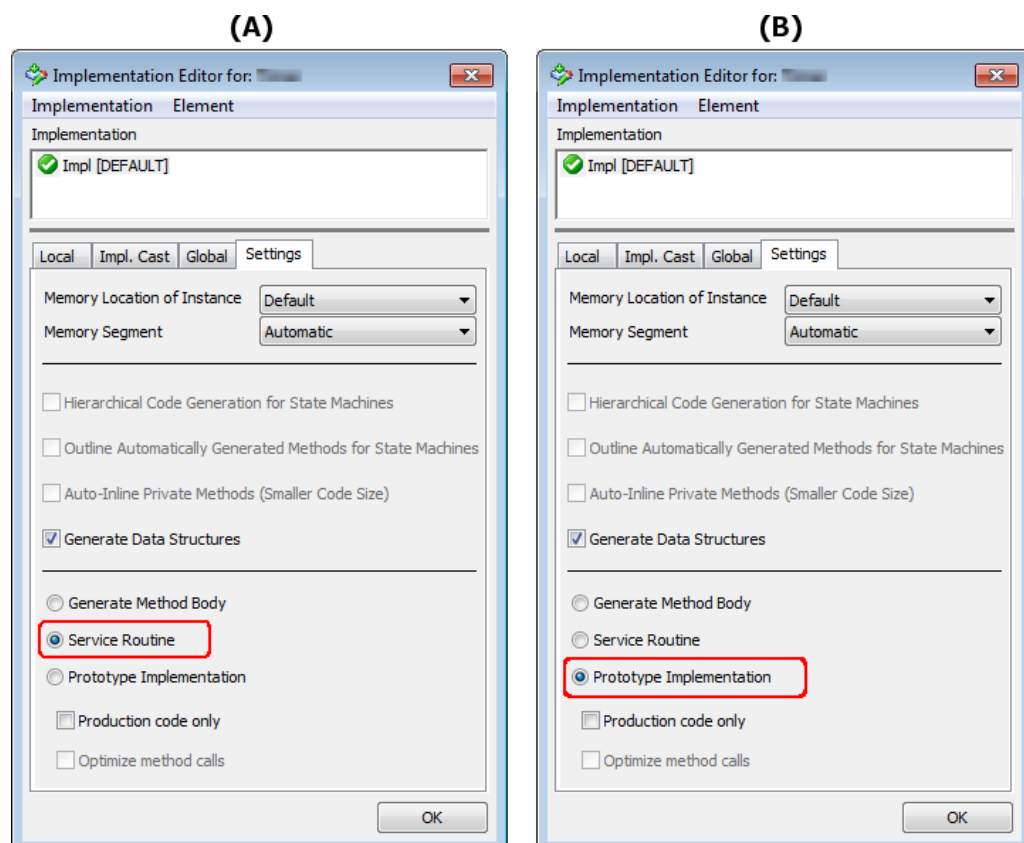

Figure 7.1: Class configured for methods to be implemented as service routines (A) or prototype implementations (B)
**Service libraries** also provide ASCET class models, but typically with methods implemented as service routines (**A** in Figure 7.1 on this page) or prototype implementation (**B** in Figure 7.1 on this page). This means that a service library defines only the *interface* between ASCET and some externally provided implementation of the functionality. The library is therefore not self-contained. If you want to use a service library, you will need both the ASCET model *and* the external implementation of the library (either as C source code or a pre-compiled library).